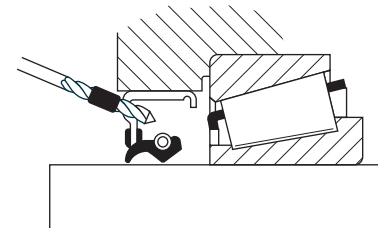

Figure 1A Drill Method
6. **OIL SEAL REPLACEMENT ONLY** — Figures 1A, 1B and 1C. The high speed shaft and lower low speed shaft seal cages must be removed for oil seal replacement. The upper low speed seal shaft may be replaced without disturbing the seal cage. If the drive is to be totally disassembled, start with Step 7. If only the seals are to be replaced, proceed as follows:
1. Drill Method—Wrap several turns of tape around the drill approximately .250" from the drill point to prevent the drill from entering too deeply into the housing and damaging the bearing. Grease or magnetize the drill to help retain the chips. Drill two .125" diameter holes in the seal cage 180° apart. Control the angle of the drill as illustrated in Figure 1A, to prevent damage to the shaft.